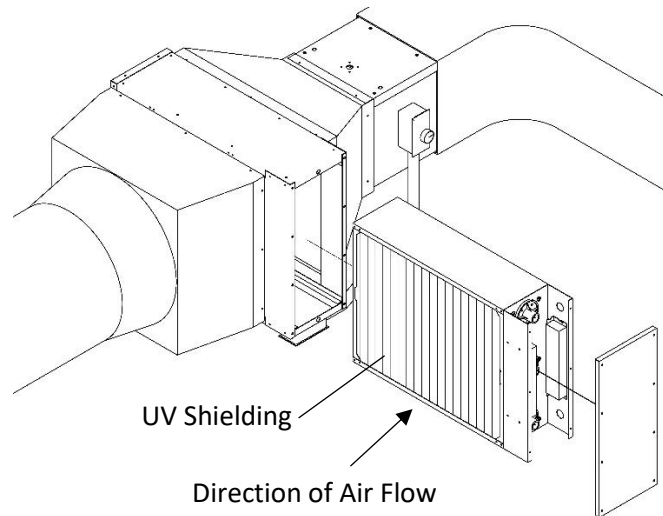

Figure 29
4.) Remove catalyst panel. See Figure 29.
5.) Place new catalyst panel into DT-FP. Be sure that arrows on panel point in the direction of air flow. See Figure 29.